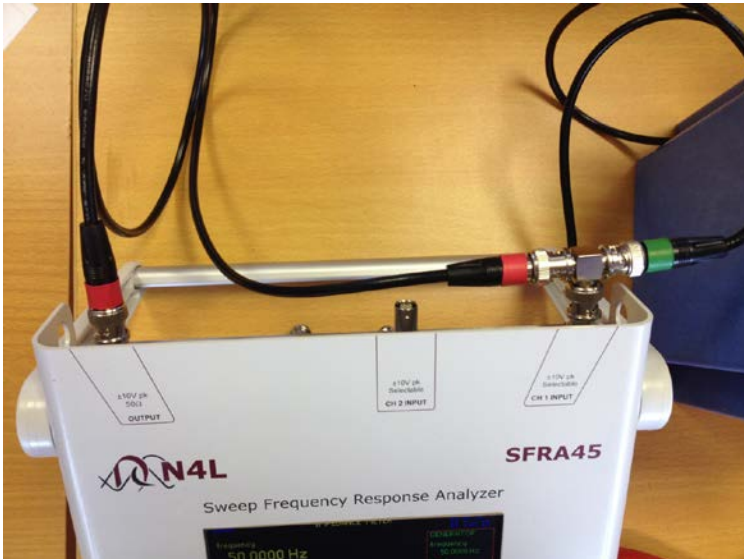

Fig 1
- A. Connect the "OUTPUT" lead to a "T" connector on CH1 of the SFRA45 (Fig 1)